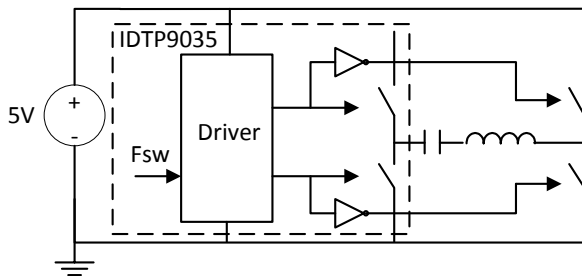
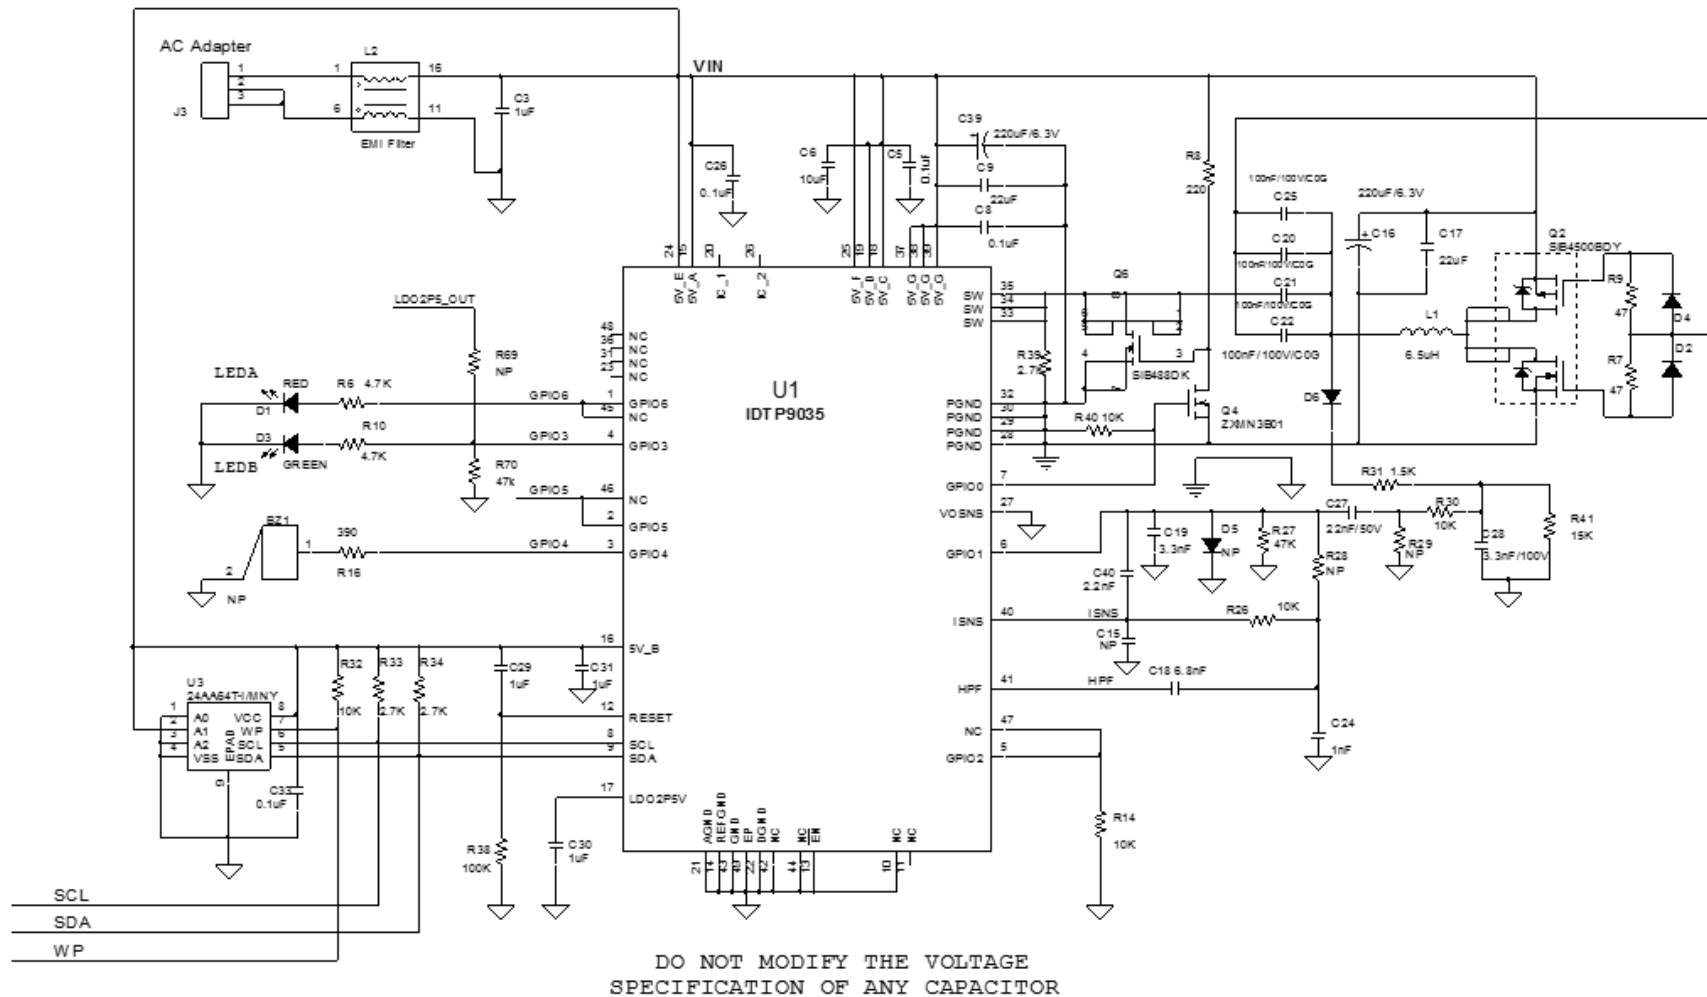

Figure 7. Full-Bridge inverter TX Coil Driver.
Figure 9. IDTP9035 WPC “Qi” Compliance Schematic (See IDTP9035 Evaluation Kit User Manual for complete details)
The Driver Control block contains the logic, shoot-through protection, and gate drivers for the on-chip power FETs and external FETs. The on-chip and external FETs are configured as a full-bridge power inverter, effectively doubling the peak-to-peak voltage applied to the coil. The frequency of the full-bridge output waveform is set by the MCU. (For details, please refer to the simplified application diagram (Figure 1) and the reference design schematic (Figure 9)).
The recommended applications schematic diagram is shown in Figure 9. The IDTP9035 operates with a 5V_{DC} (±0.25V) input. The switching frequency varies from 110kHz to 205kHz. At the 205kHz limit the duty cycle is also changed to adjust the power transfer level. The power transfer is controlled via changes in the switching frequency and duty cycle. The base or TX-side has a series resonance circuit made of a WPC Type-A5 or A11 coil (~6.3μH) and a series resonant capacitor (~400nF) driven by a full-bridge inverter, as shown in Figure 7.
10). A complete design schematic compliant to the WPC “Qi” standard is given in Figure 9. It includes WPC “Qi” LED and buzzer signaling.